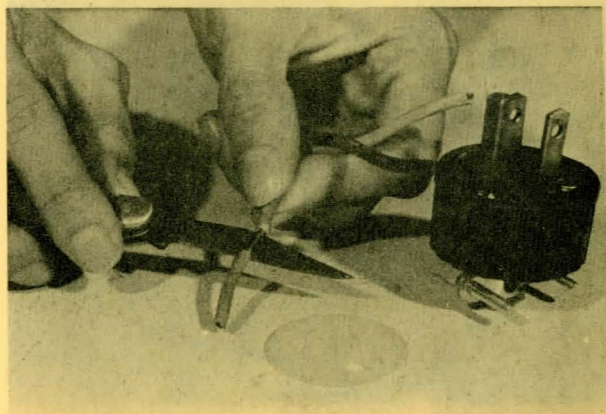

Figure 6
5. Carefully remove insulation so enough wire is exposed to go around the screw. About $\frac{5}{8}$ to $\frac{3}{4}$ inch should be enough (Fig. 6).